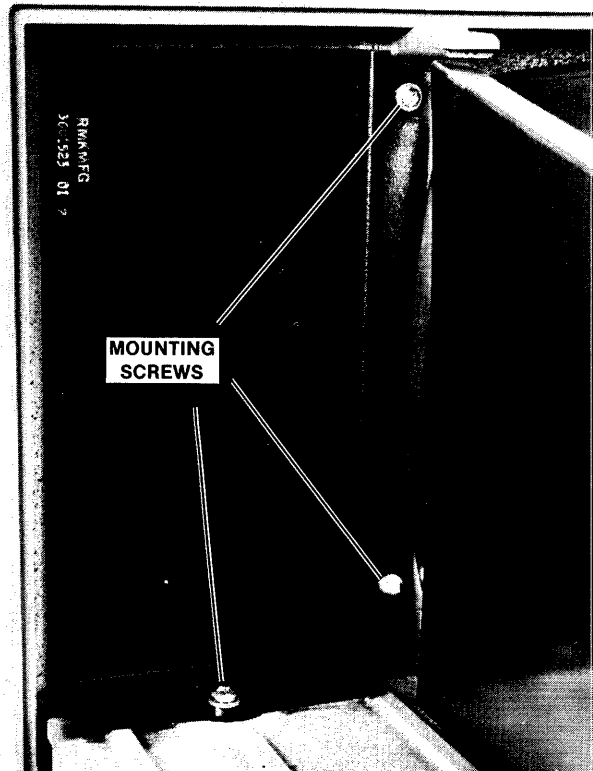

Fig. 4-12 Panel Removal
5. Remove the blank panel from the front of the chassis. It is held in place by three screws on the back side. See Figure 4-12.